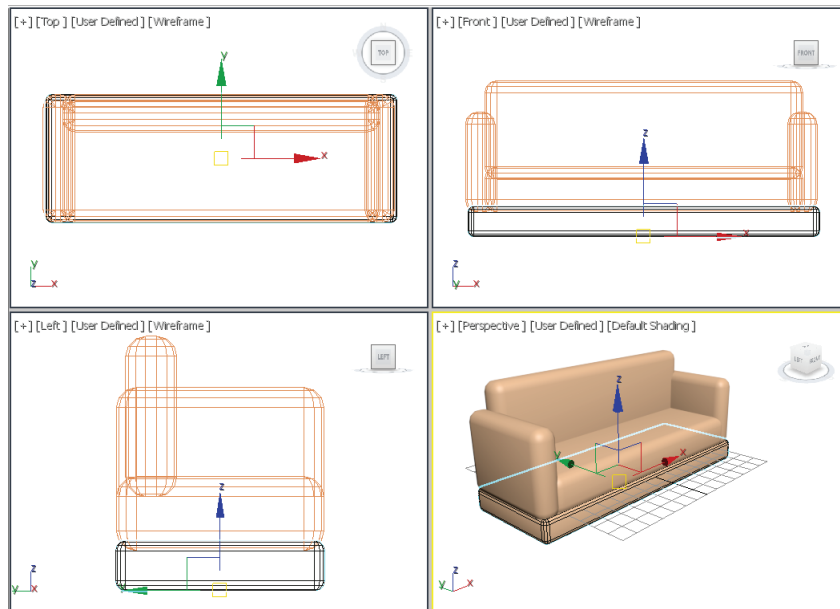

Figure 3-26 The base geometry displayed in the viewports
2. Choose the **Create** button; another chamfer box is created, as shown in Figure 3-26.